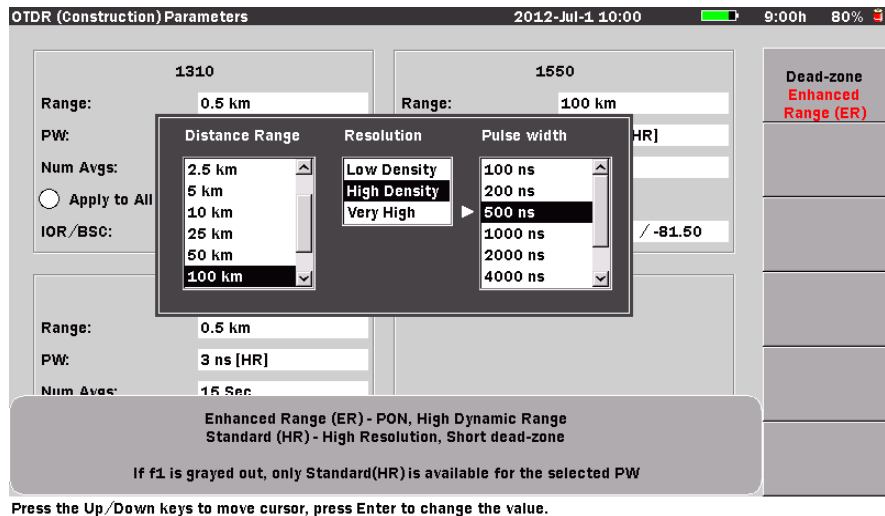

Figure 6-12: Dead-zone Mode Selecting screen
1. With the OTDR Parameters screen displayed, use the **Left/Right/Up/Down Arrow keys** (or the **Rotary knob**) to highlight the **Range** field or **PW** field for the first desired wavelength and then press the **Enter key** (or the **Rotary knob**). The Distance Range, Resolution, and Pulse width dialog box appears (see Figure 6-12 on page 6-34).